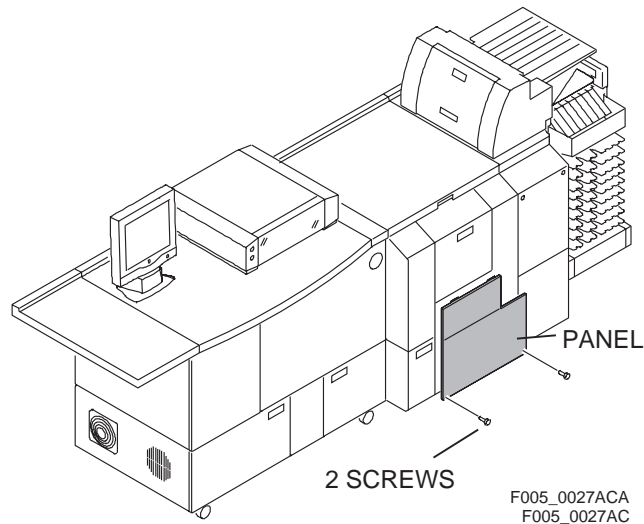

Figure 2
- Remove front panel covering replenisher tanks (Fig. 2).